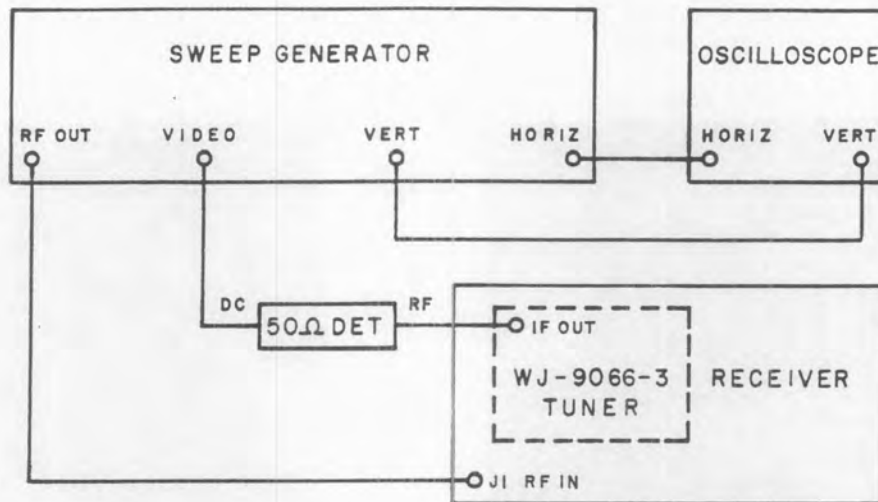

Figure 4-16. Test Setup, Interstage Network and Converter Alignment
- (1) Connect the equipment as shown in Figure 4-16.
- (2) Set the MODE switch to the AM MAN position, set the IF BANDWIDTH switch to its widest bandwidth, and turn the RF/IF GAIN control fully clockwise.
- (3) Tune the WJ-9066-3 to 26 MHz and center the FINE TUNING control on the receiver.